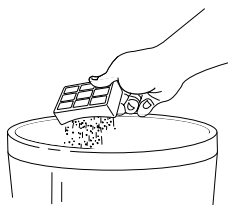

Fig. 23
- 3 Turn the filter over so that the dirty side is on the bottom and vigorously tap it clean against a garbage can to remove any dust. **(Fig. 23)**